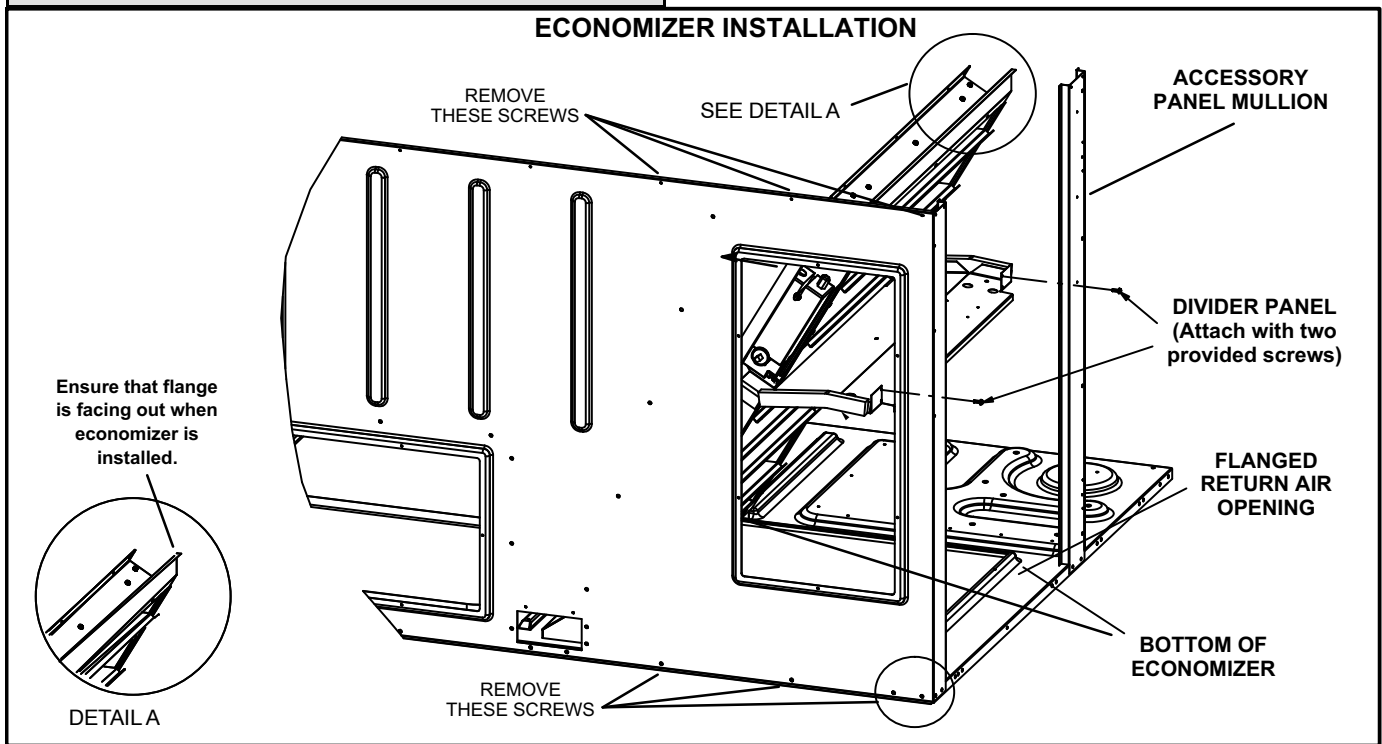

FIGURE 1
- 3- Remove and retain screws from top and bottom of rear panel. Remove screws from accessory panel mullion and remove mullion. Lift the top of the unit as needed. See figure 1.
- 4- Slide the bottom of the economizer over the flanged return air opening in the base of the unit until it settles into place. See figure 1.
- 5- Use provided screws to secure economizer divider panel to unit end mullion and accessory compartment mullion as shown in figure 1.